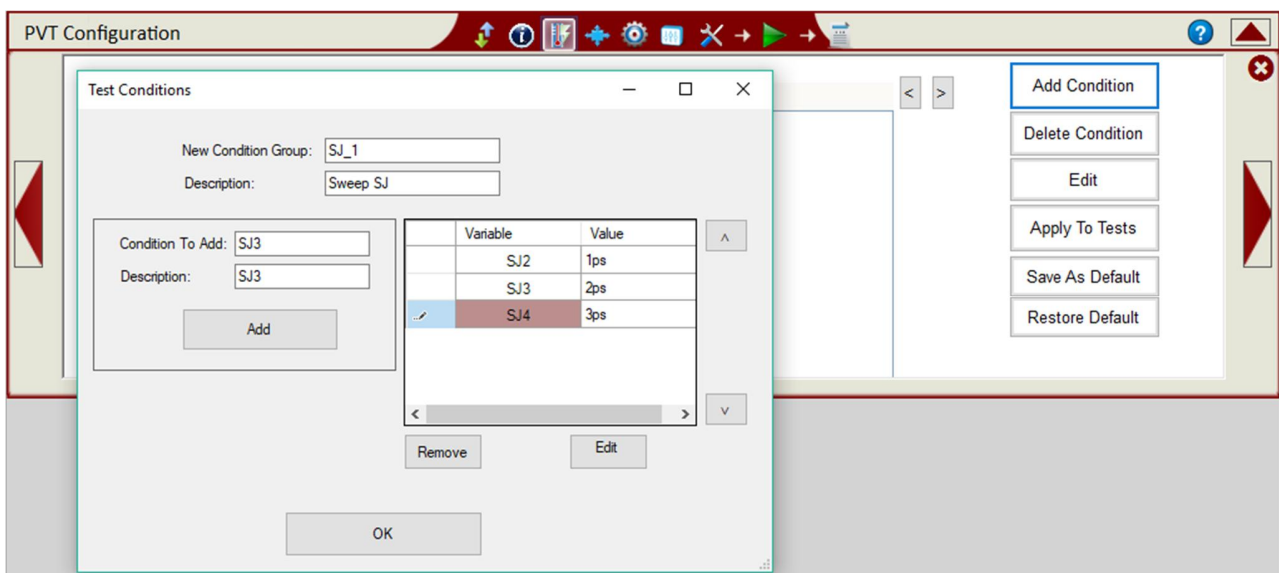

FIGURE 127. ADD FIRST PVT AUTOMATION PARAMETER
3. Add a parameter to the selected test by selecting "Add Condition". See Figure 127, which selects 'SJ_1' as the new condition group. No drop-down menu of allowed parameter names is provided. Refer to Table 6. A short description may be provided. This description, and the names of the individual step 'Variables' are all included in the test Report.